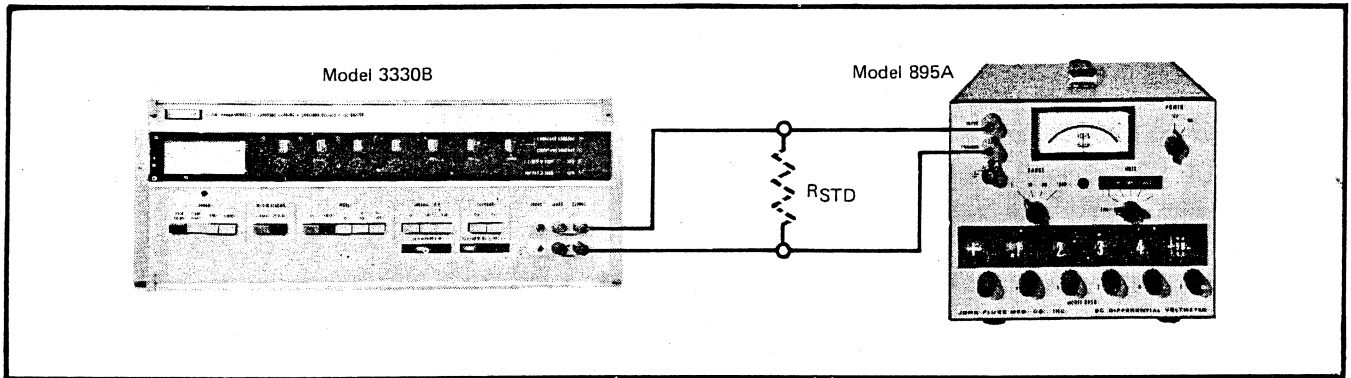

Figure 4-2. MA MODE ACCURACY CHECK – EQUIPMENT CONNECTIONS
- c. Make the equipment connections shown in Figure 4-2. The RSTD resistor is a 1K, 0.001W.